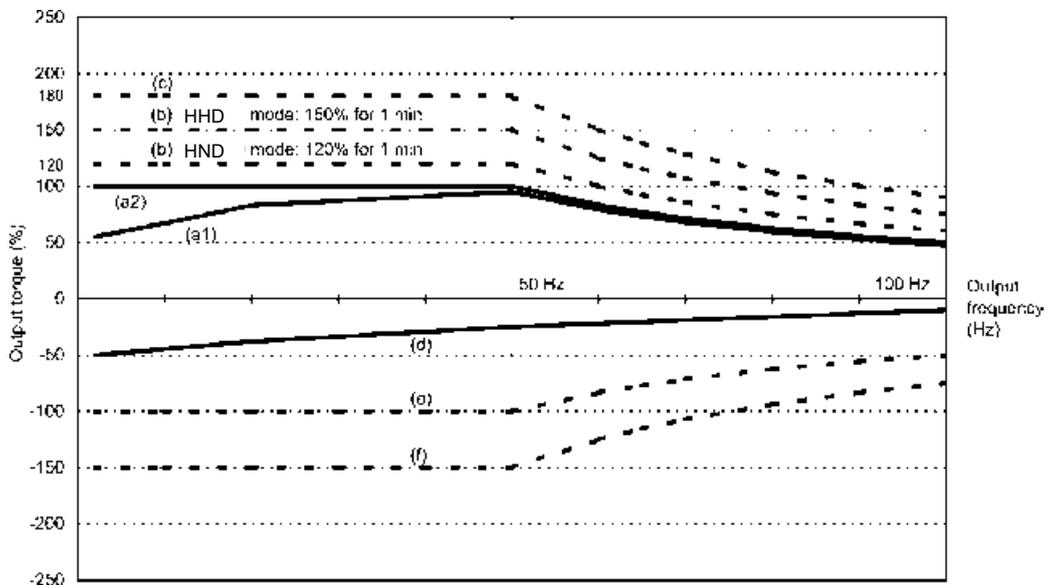
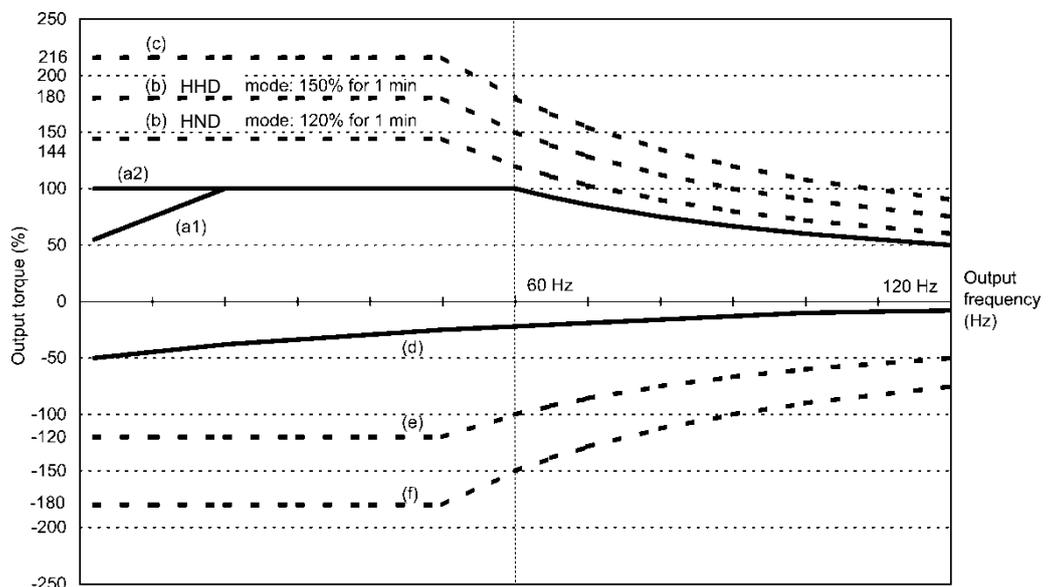

Fig. 10.1-1 Output torque characteristics (base frequency: 50 Hz)
Fig. 10.1-2 Output torque characteristics (base frequency: 60 Hz)
Fig. 10.1-1 and Fig. 10.1-2 graph the output torque characteristics of motors versus the output frequency for 50 Hz and 60 Hz base frequencies. The horizontal and vertical axes show the output frequency and output torque (%), respectively. Curves (a) through (f) depend on the running conditions.
1) Standard motor (Curve (a1) in Fig. 10.1-1 and Figure Fig. 10.1-2)
2) Motor exclusively designed for vector control (Curve (a2) in Fig. 10.1-1 and Fig. 10.1-2)
(2) Maximum driving torque in a short time (Curves (b) and (c) in Fig. 10.1-1 and Fig. 10.1-2)
(3) Starting torque (around the output frequency 0 Hz in Fig. 10.1-1 and Fig. 10.1-2)
(4) Braking torque (Curves (d), (e), and (f) in Fig. 10.1-1 and Fig. 10.1-2)